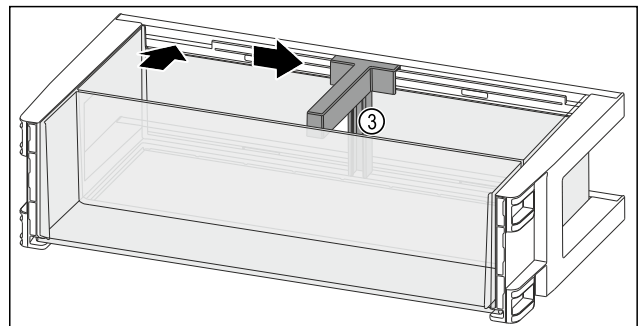

Fig. 152
- Insert the bottle holder Fig. 152 (3) into the recess.
- Push the bottle holder Fig. 152 (3) to the side into the desired position.